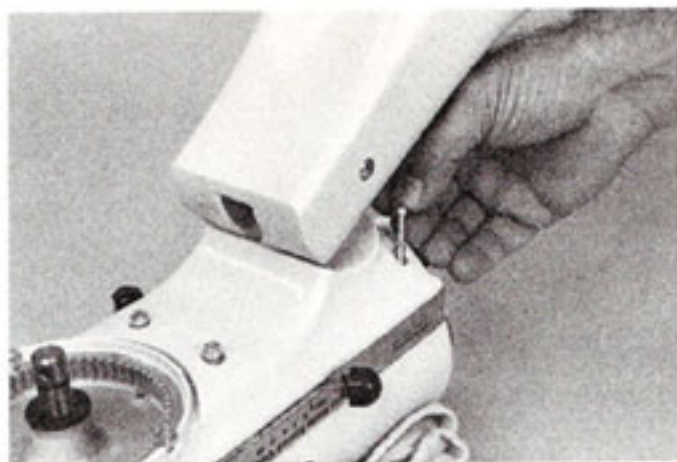
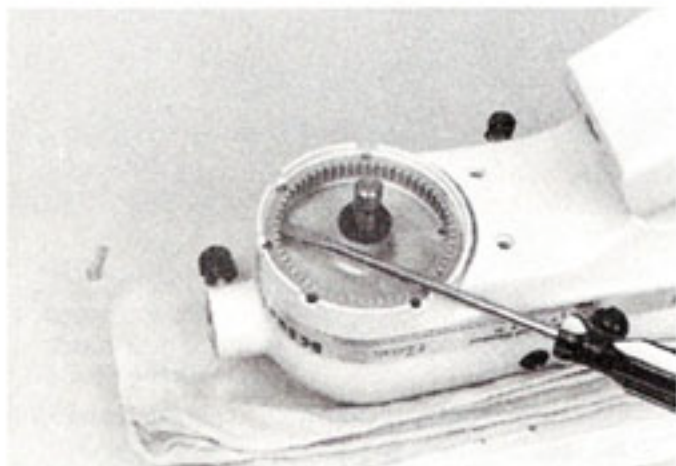
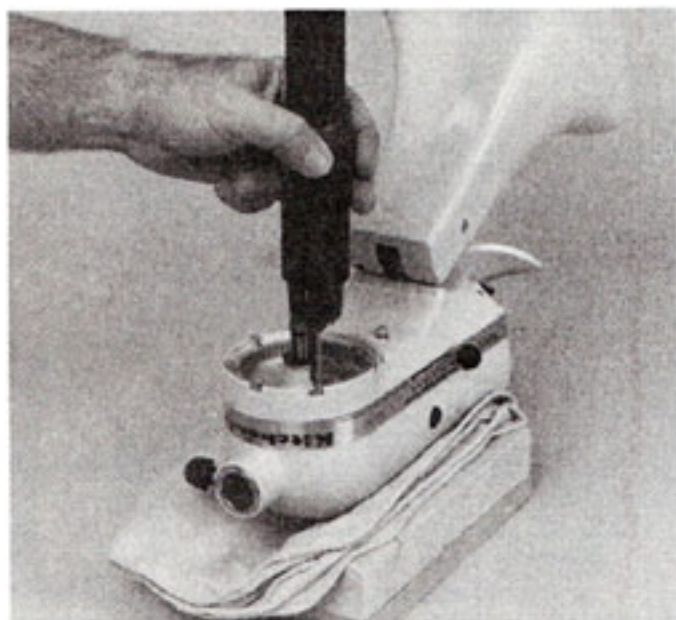

Fig. 65
Fig. 63
Fig. 64
- P. If necessary to replace internal gear, pry gear from gear case cover (Fig. 63). When installing new gear, align notches with holes in gear case and tap evenly into place using non-metallic mallet. Turn the five special screws (Fig. 64) evenly and tightly (18-20 in. lbs.). Then screw in the four #10-24 x 1" fillister head screws and turn them in evenly and tightly (Fig. 65).